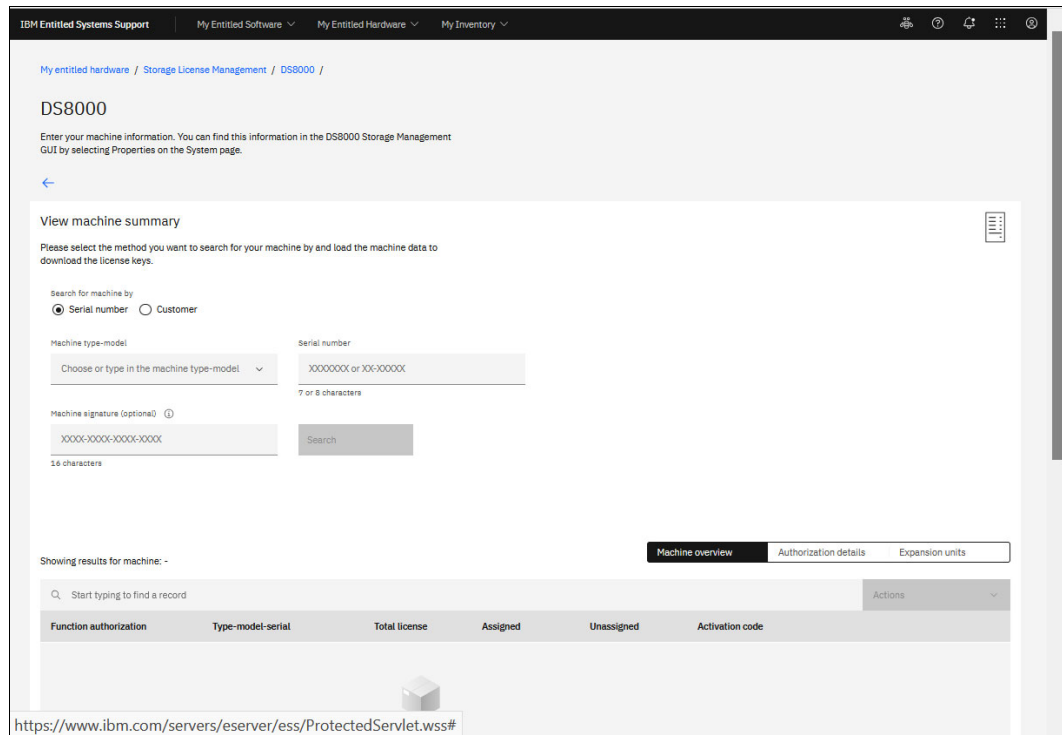

Figure 7-13 ESS DS8000 machine information entry window
3. Click **DS8000**. The DS8000 machine information window opens, as shown in Figure 7-13.